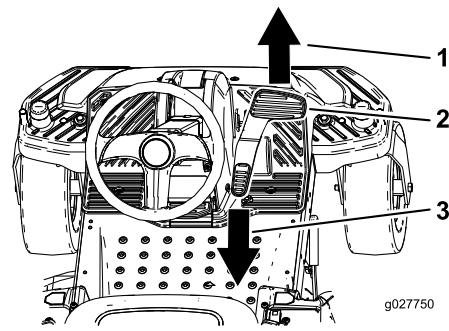

Figure 20
3. Place your foot onto the traction-control pedal and slowly press the top of the pedal to go forward, or press on the bottom of the pedal to move backward (Figure 20).